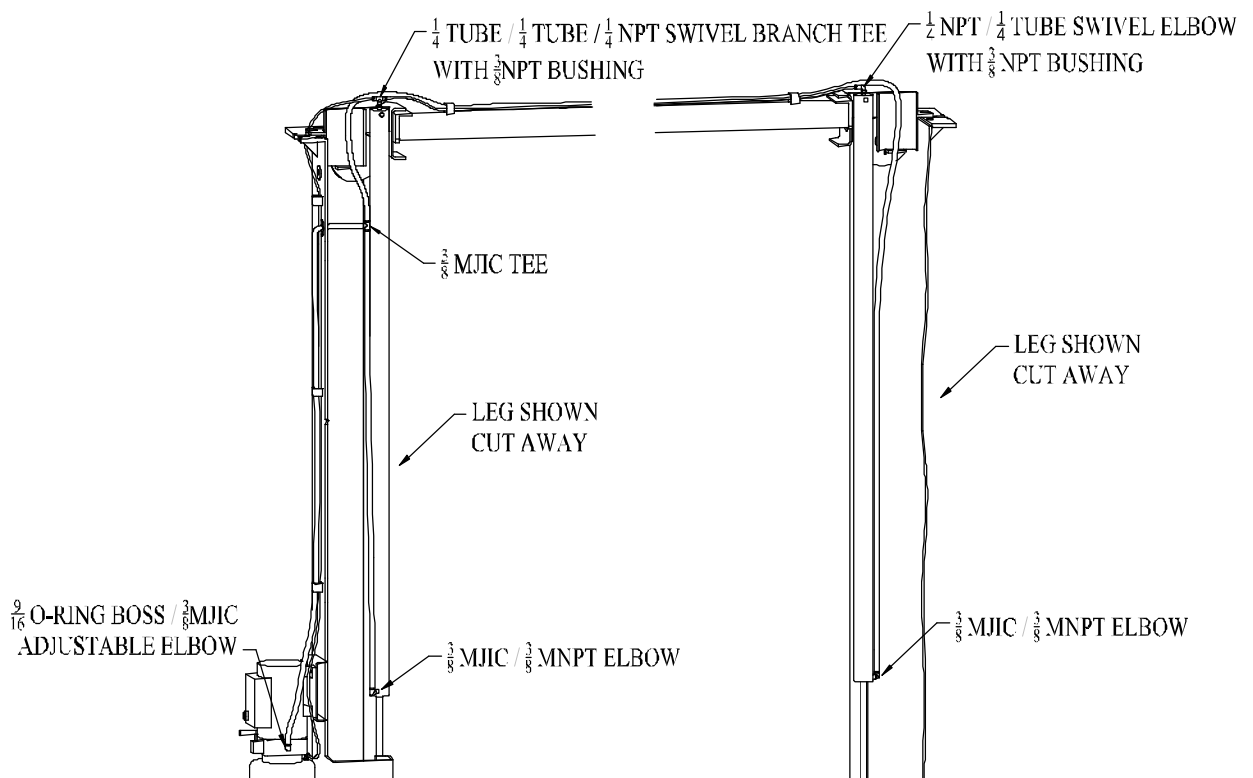

Figure 5
12. **Hydraulic system, figure 5.**